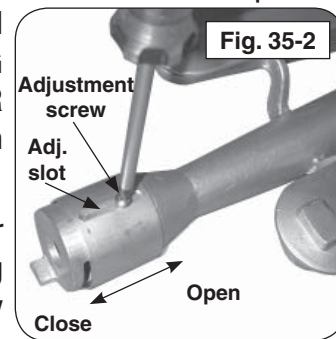

Fig. 35-2
2. Adjust the air shutter opening by loosening the adjustment screw with a screwdriver, then sliding the air shutter backward or forward to open or close the air shutter opening (see Fig. 35-2).